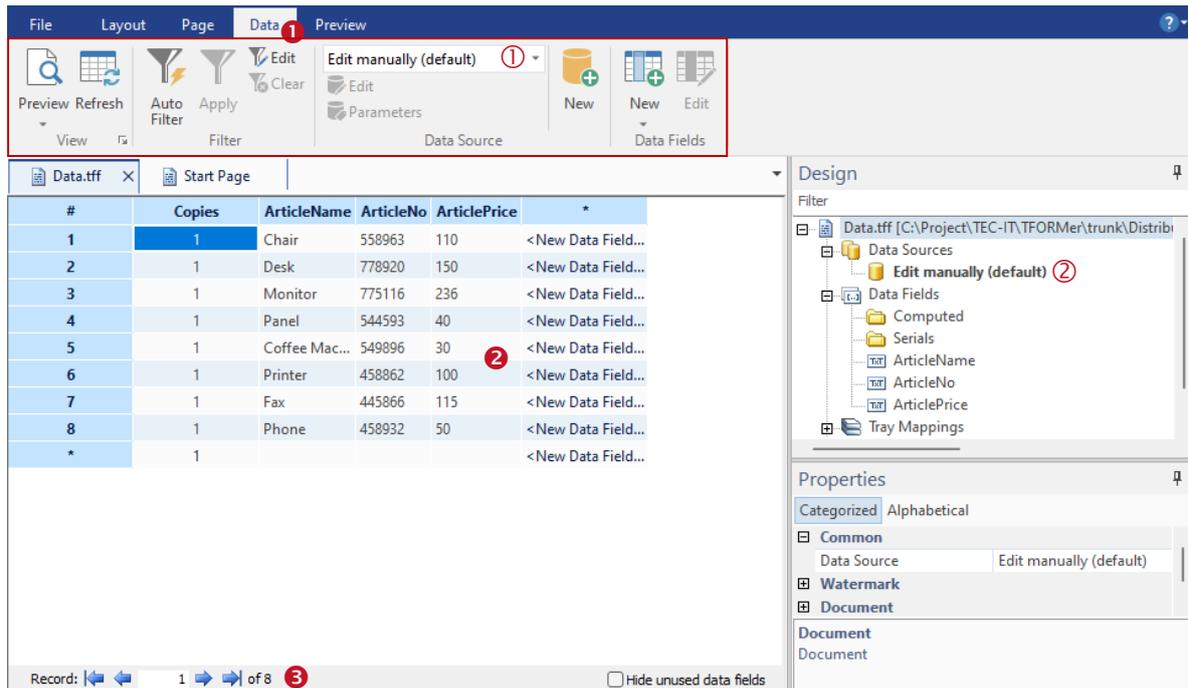

Figure 64: Data View
To switch to a specific data source, use the menu command *Data Source |* and select the respective item from the drop-down list (see also Figure 64, ①). Alternatively, you can also right-click on the data source in the design tree and select *Set as Active Data Source* from the context menu.